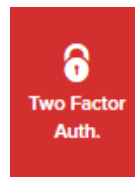

Figure 11. Partner Portal (Two Factor Auth. icon)
4. Click the **Two Factor Auth.** link on the left-hand side of the web page (**Figure 11 (page 45)**).